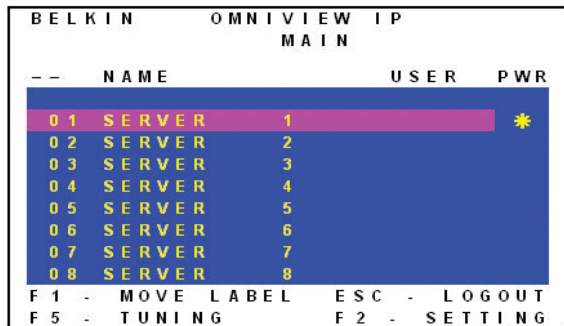

Figure 10 OSD Main window
1. From the local keyboard, press "Scroll Lock". The OSD Main window appears (see Figure 10).